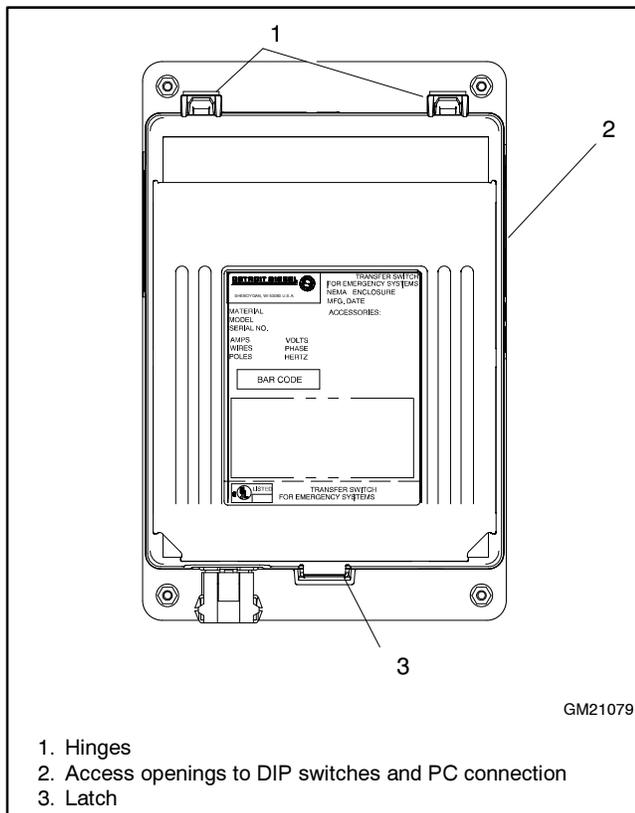

Figure 3-20 Controller Housing Cover
14. Remove the plastic cover from the old controller and save it to install on the new controller assembly. To remove the cover, depress the latch at the bottom of the cover. Swing the cover open on its hinges and lift it off. See Figure 3-20.